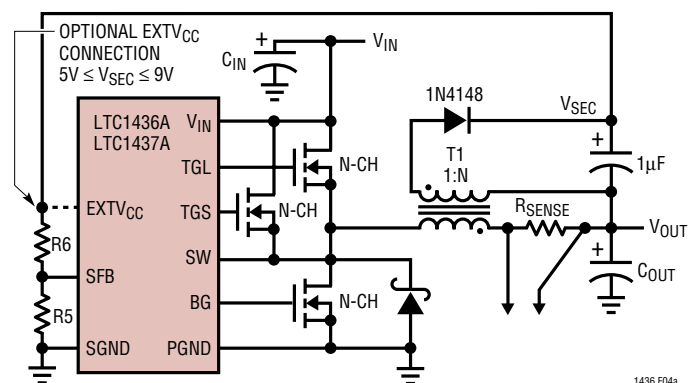
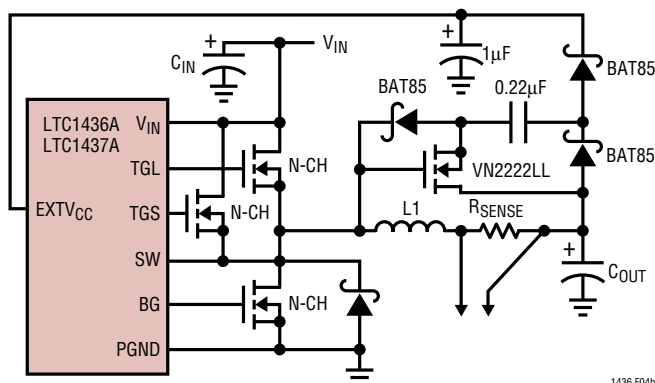

Figure 4a. Secondary Output Loop and EXT_{V_{cc}} Connection
Figure 4b. Capacitive Charge Pump for EXT V_{CC}
3. EXTV_{CC} connected to an output-derived boost network. For 3.3V and other low voltage regulators, efficiency gains can still be realized by connecting EXTV_{CC} to an output-derived voltage which has been boosted to greater than 4.8V. This can be done with either the inductive boost winding as shown in Figure 4a or the capacitive charge pump shown in Figure 4b. The charge pump has the advantage of simple magnetics.
The secondary output voltage is set by the turns ratio of the transformer in conjunction with a pair of external resistors returned to the SFB pin as shown in Figure 4a. The secondary regulated voltage V_{SEC} in Figure 4a is given by: